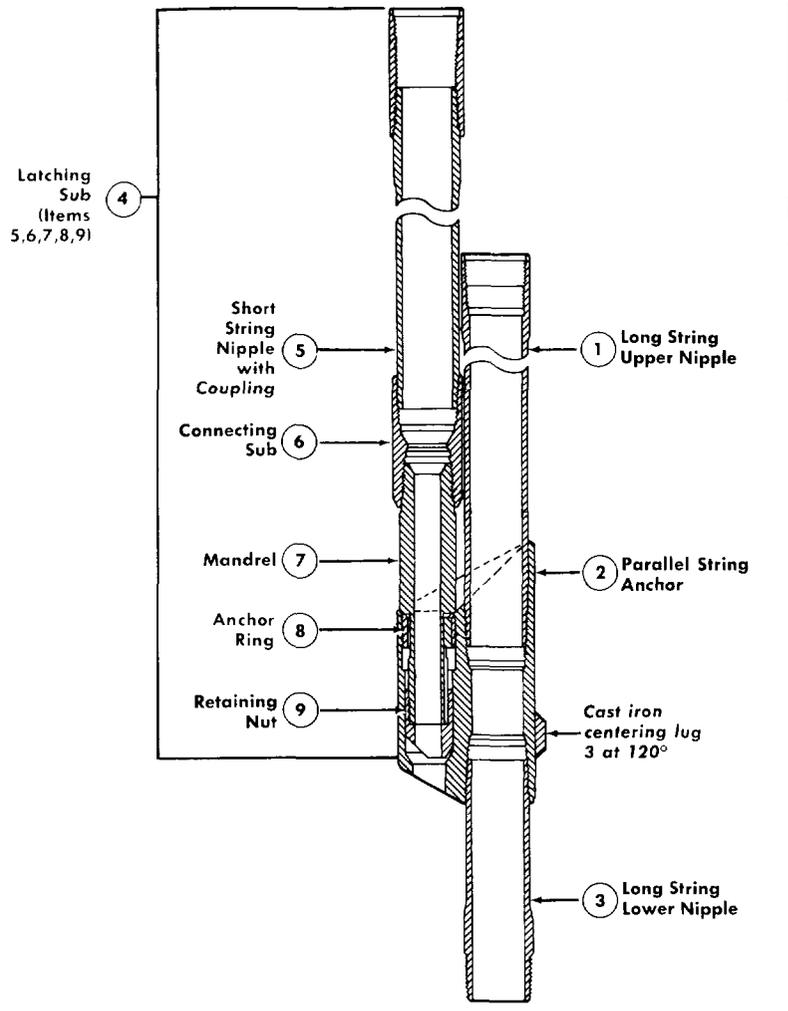

Fig. 5
4. Baker Parallel-String Anchor with Latching Sub, Product No. 699 (Refer to Figs. 5 and 6.) The basic Anchor contains threaded connections for the Upper and Lower Long String Nipples, as well as Left-Hand Threads at its upper portion, into which the Anchor Ring of the Latching Sub "latches" to anchor the short string. Note that the top of the Parallel-String Anchor is machined to a funnel shape with an axis in line with the short string in order to guide the Latching Sub into the Left-Hand Threads. The Upper Long String Nipple with Tubing Thread Box Up and the Lower Long String Nipple with Tubing Thread Pin Down provide connections for the long string. The Short String Nipple with Tubing Thread Box Up provides connection for the short string.